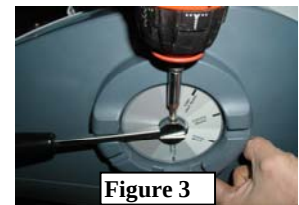

Figure 3
### a) Replace the Transformer. Figure 3
3. Disconnect control wires from the Sub-PCB. Figure 3
2. Remove the lever knob screw and lever (Figure 3).